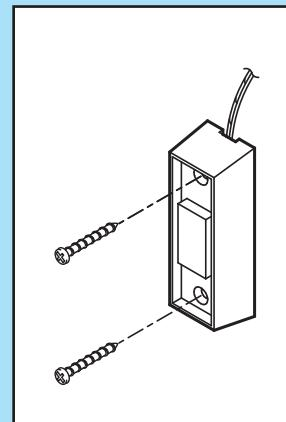

FIG. 3-4 Mounting Wall Button.
- Fasten wall button to wall with 2 screws (provided) (**Fig. 3-4**).